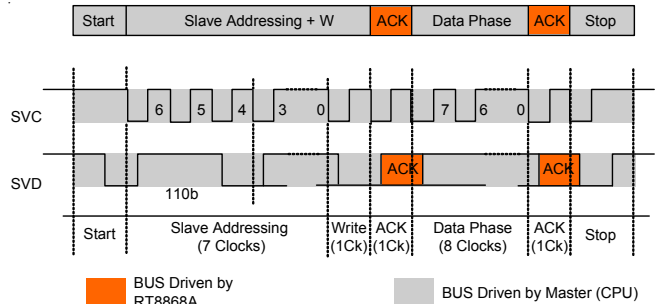

Figure 1. SVI Communication-Send Byte
SVI wire protocol is based on fast-mode I²C as shown in Figure 1. SVI interface also considers two additional signals needed to manage the system start-up. These signals are EN and PWROK. The device asserts a PGOOD signal if the output voltages are in regulation.
The Set VID Command is defined as the command sequence that the CPU issues on the SVI bus to modify the voltage level of the Core section and NB section, as shown is Figure 1. During a Set VID Command, the processor sends the start (Start) sequence followed by the address of the Section which the Set VID Command applies. The processor then sends the write (WRITE) bit. After the write bit, the Voltage Regulator (VR) sends the acknowledge (ACK) bit. The processor then sends the VID bits code during the data phase. The VR sends the acknowledge (ACK) bit after the data phase. Finally, the processor sends the stop (Stop) sequence. After the VR has detected the stop, it performs an On-the-Fly VID transition for the addressed section(s). Refer to Table 3 for the details of SVI send byte.